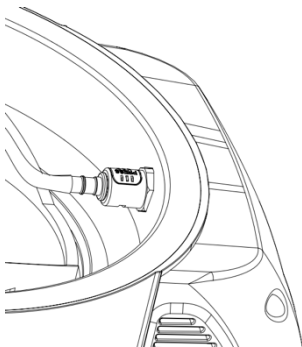
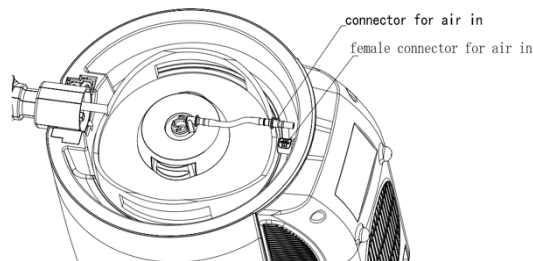

Figure 14
Figure 15
3. Press and hold the white button of the air inlet quick socket (as shown in Figure 14), and pull out the quick air inlet connector at the end of the beer pipe on the wine valve device from the air inlet quick socket (as shown in Figure 15).